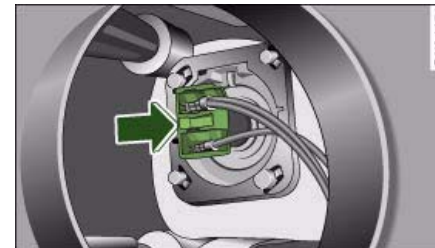

Fig. 261 Bulb holder for main beam headlights
- Press the connector in the direction of the arrow ⇒ fig. 261.